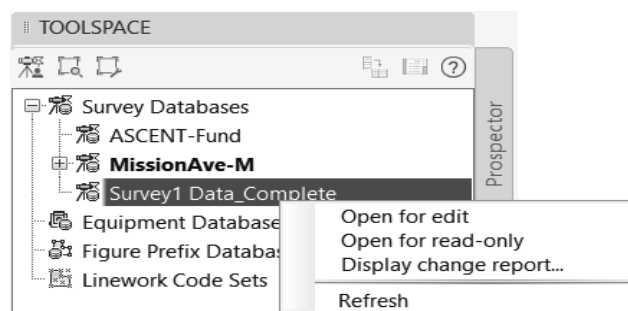

Figure 2–70
2. Select the survey database that you want to open, right-click, and select **Open for edit** or **Open for read-only**, depending on your requirements, as shown in Figure 2–70. Contrary to most Civil 3D functions, where double-clicking invokes an edit function, double-clicking on a Survey Database will open it as read-only.